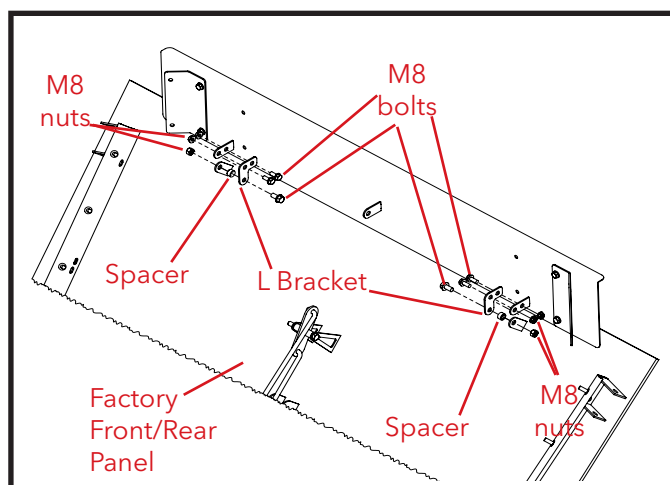

Figure 4
Use the M8 bolts, M8 nuts, spacer, and L bracket from Step 1 to attach the Front Tip-Up Panel Assembly (3) to the factory front panel. **Do not attach Linkage at this time.** See Figure 4.